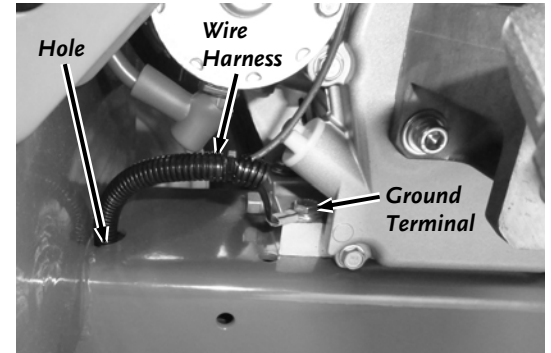

Figure 12
17. **Electric Start only:** Route the Harness down to the front left corner of the Engine and connect the green wire ground Terminal of the Harness to the Engine mounting flange with a Bolt, Flat Washers (top and bottom) and Locknut using two 1/2" Wrenches (**Figure 12**).